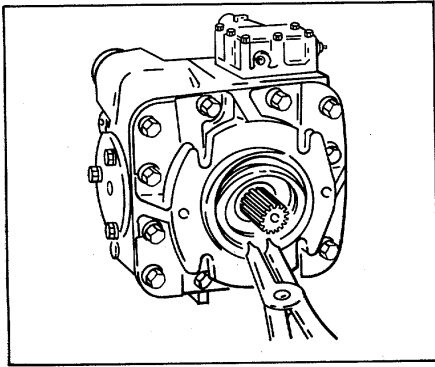

Figure 16.
2. Insert Truarc #7 pliers in snap-ring holes, compress ring and roll out (refer to Fig. 16).